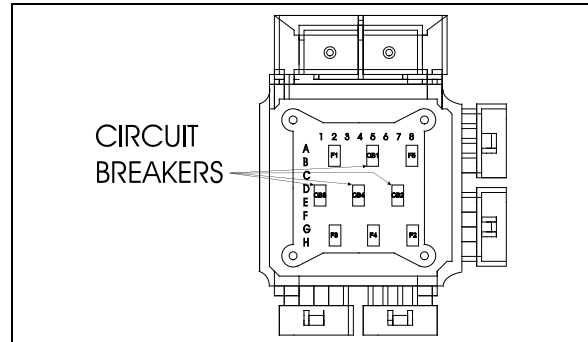
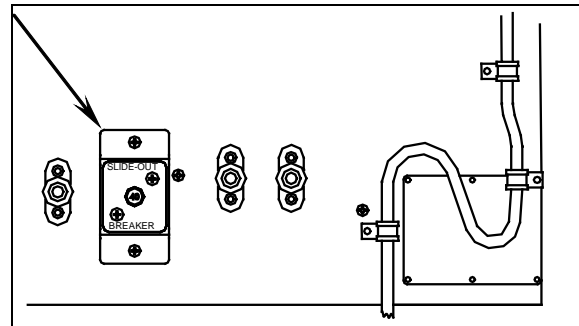

FIGURE 88 : VEC CIRCUIT BREAKERS ON SLIDE-OUT CONTROL PANEL
FIGURE 89 : MAIN SLIDE-OUT BREAKER IN ENGINE R.H. SIDE ACCESS COMPARTMENT
- Make sure that none of the breakers are tripped (the breakers are located inside the VEC on the slide-out control panel (FIGURE 88) and the main slide-out breaker is located in the engine R.H. side access compartment (FIGURE 89)).